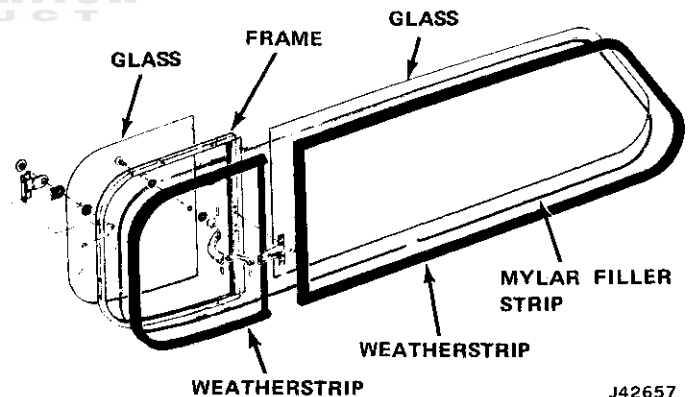

Fig. 3K-1 Rear Quarter Window—Cherokee
- (1) Remove mylar insert from weatherstrip.
- (2) Pull weatherstrip back and remove window frame-to-body screws from inside vehicle (fig. 3K-1).
- (3) Remove window frame and weatherstrip assembly.
- (4) Inspect weatherstrip and replace if necessary.
- (1) Remove handle-to-frame attaching screws (fig.3K-1).
- (2) Remove glass hinge screws and washers.
- (3) Remove glass.
- (4) To remove handle assembly from glass, carefully drive out handle assembly-to-stud roll pin.
- (5) Unscrew stud nut and remove stud from glass.